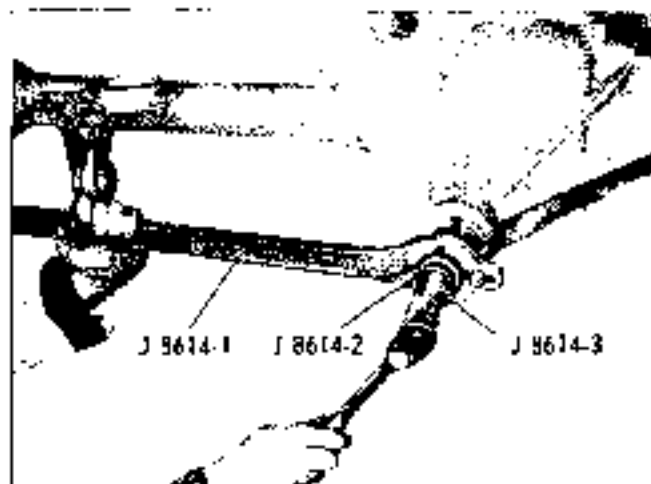

Fig. 4A-8 Removing Companion Flange
9. Lubricate lip of new seal with clear gear lube. Coat outer diameter of seal case with suitable sealer. Install seal by tapping into place, using J 21285-01 (Fig. 4A-9).